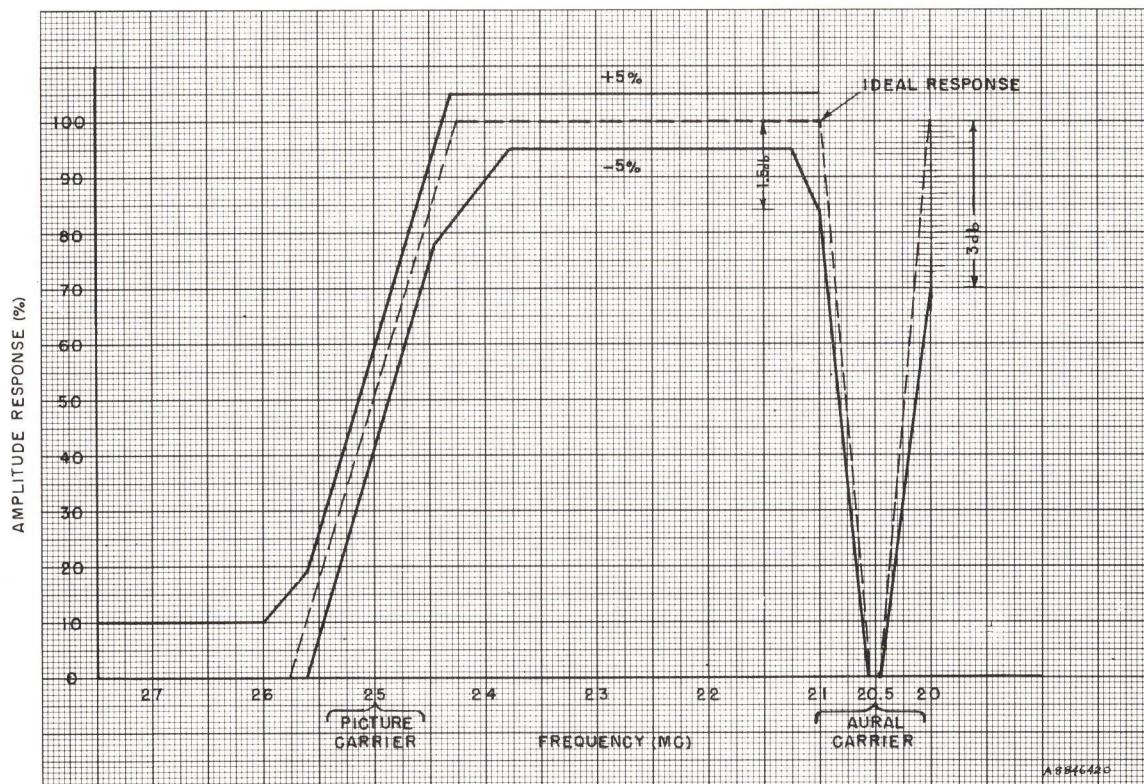

Figure 4 - IF Amplifier Response, Sound Notch In
4. Adjust the associated peaking coil, L2, for approximately flat response to about 21 mc as shown in the typical response curve, Figure 4.
10. Retune L2, L5, and L8 to obtain as nearly as possible the typical i-f response with sound notch as shown in Figure 4.